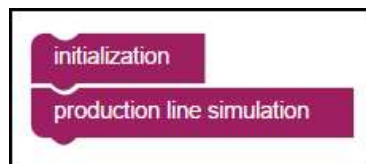

Figure 2
This lesson will, among other things, explain how to use the **timer** provided in Master Mode (5) of OzoBlockly. The program consists of a main program and several subroutines that break the code down to smaller, more manageable functional pieces. The main program consists of calls to two subroutines, as shown in Figure 2.